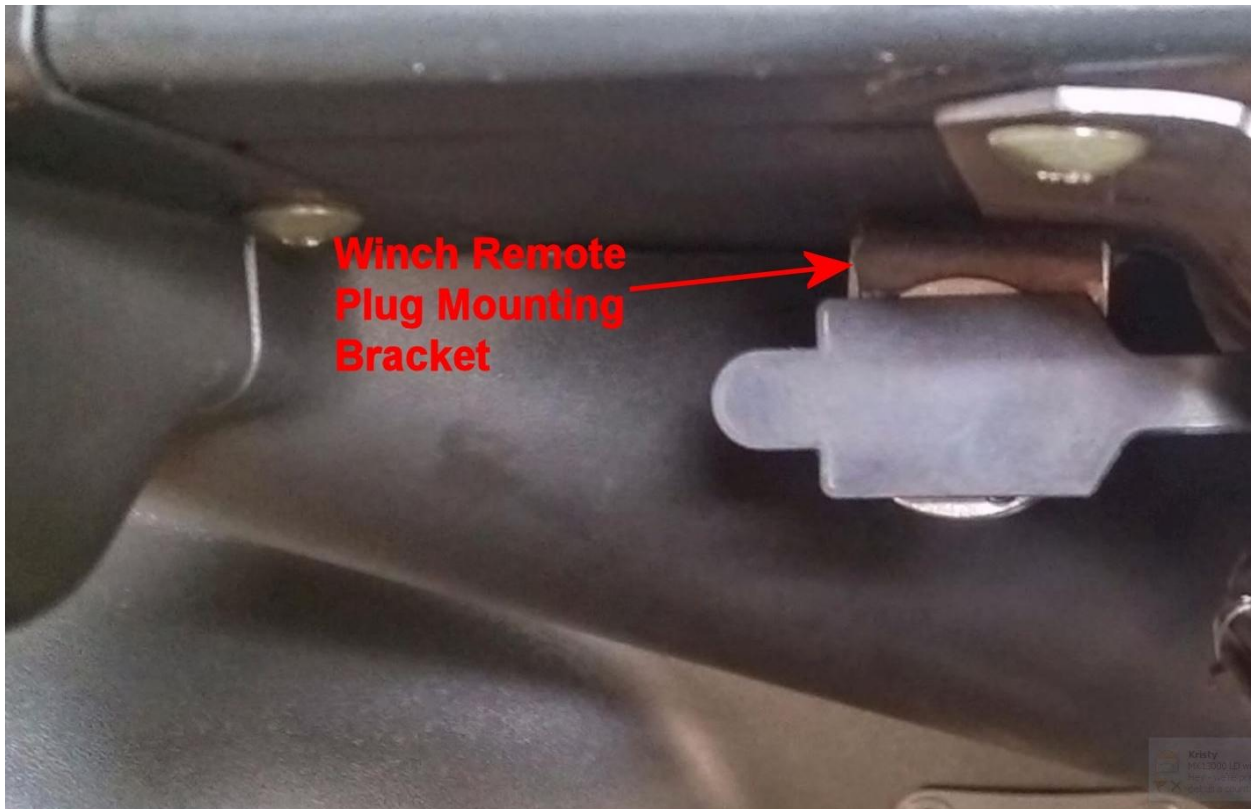

Figure 8
31. Attach the winch remote plug to the supplied Winch Remote Plug Mounting Bracket with a bolt as shown in Figure 8.